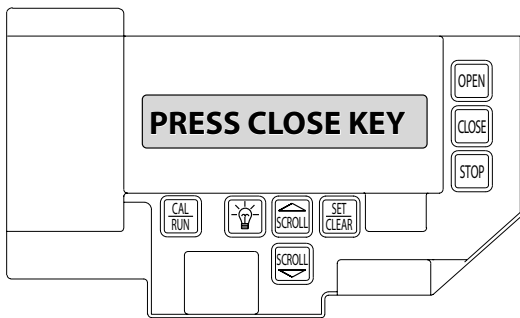

Fig. 2
- 3) Briefly press the CLOSE key. Fig. 2 (Pressing the Scroll key at this point will exit this control function.)